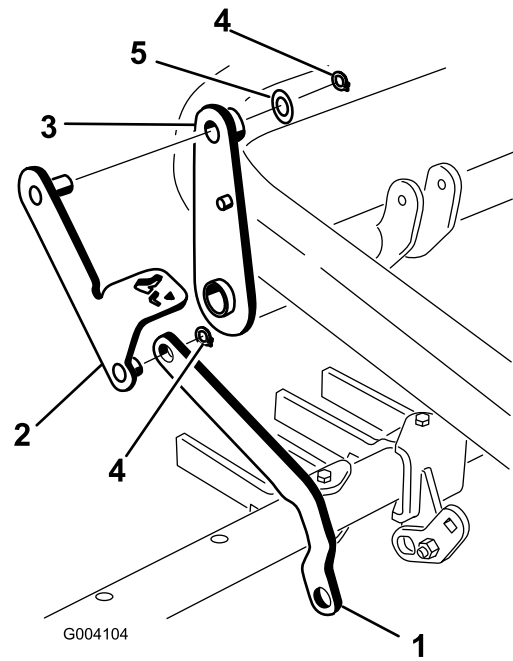

Figure 15
- Slide the end of the toolbar link over the short post on the pedal lever assembly, and secure it with a retaining ring (Figure 15).
- Install the post on the other end of the pedal lever assembly through the top of the lever assembly, and secure it using a washer (7/8 inch) and a retaining ring (Figure 15).